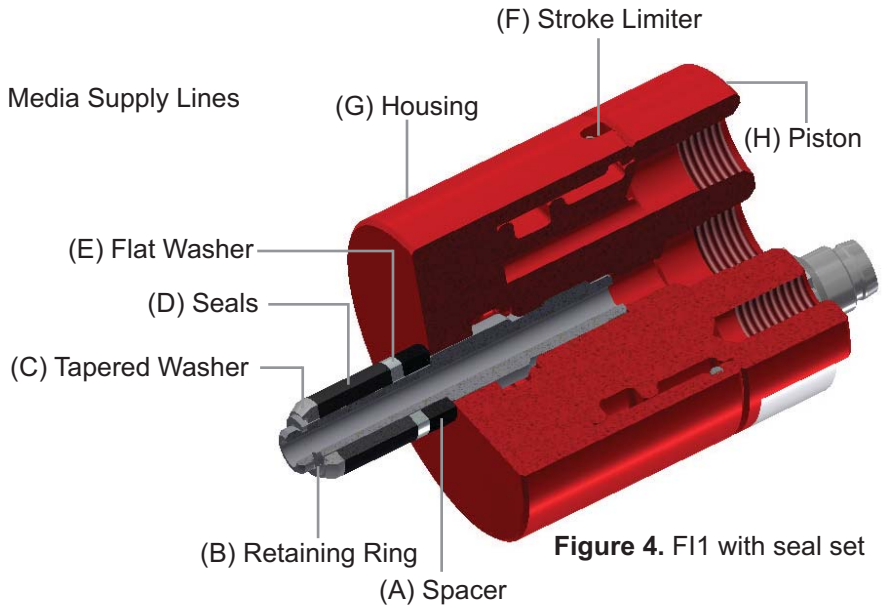

Figure 4. FI1 with seal set
- 1.3. Assemble seal set onto the shaft per Figure 4.